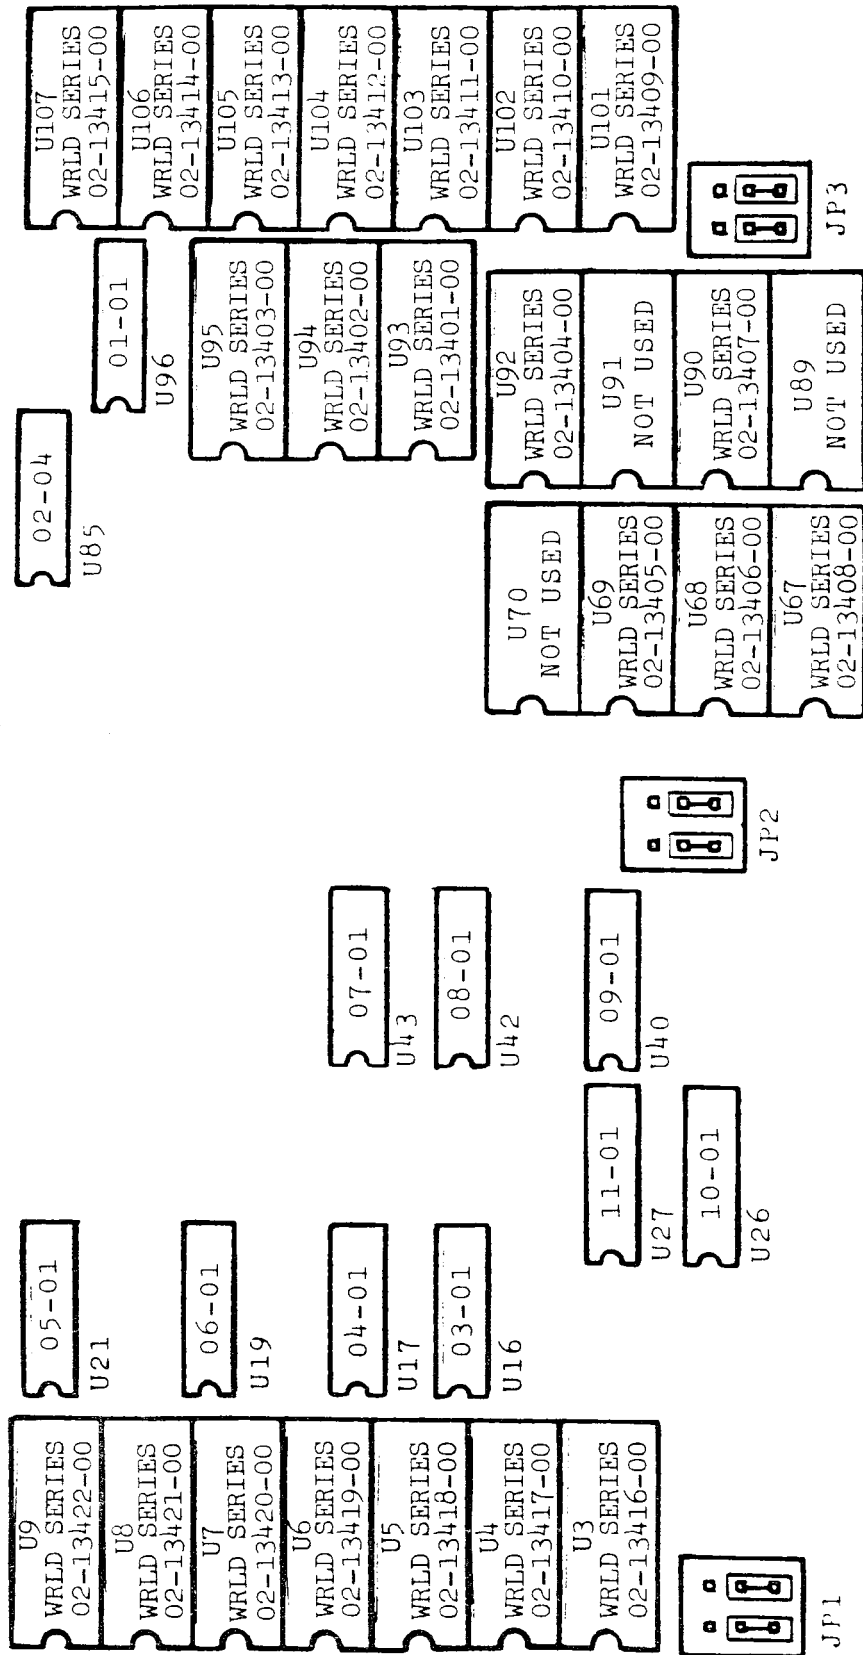

FIGURE 2
- 1) Install the 22 WORLD SERIES eeproms in the Cinemat main logic board noting the chip location ("U" number) printed on each chip and referring to Figure 2. Noting the location of pin 1 of both the eeprom and socket, plug each eeprom into the socket indicated. Be sure all eeprom pins are aligned and the eeproms are pressed firmly in place.